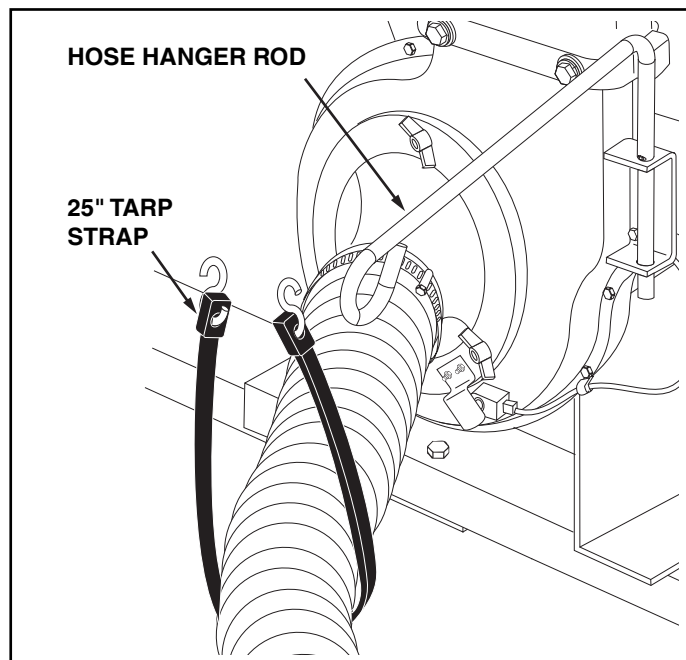

FIGURE 20
35. Place the hose hanger rod assembly into the hose hanger bracket on the impeller housing assembly. See figure 20.
36. Loop the 25" tarp strap under the hose. Fasten the hooks to the hose hanger rod. See figure 20.